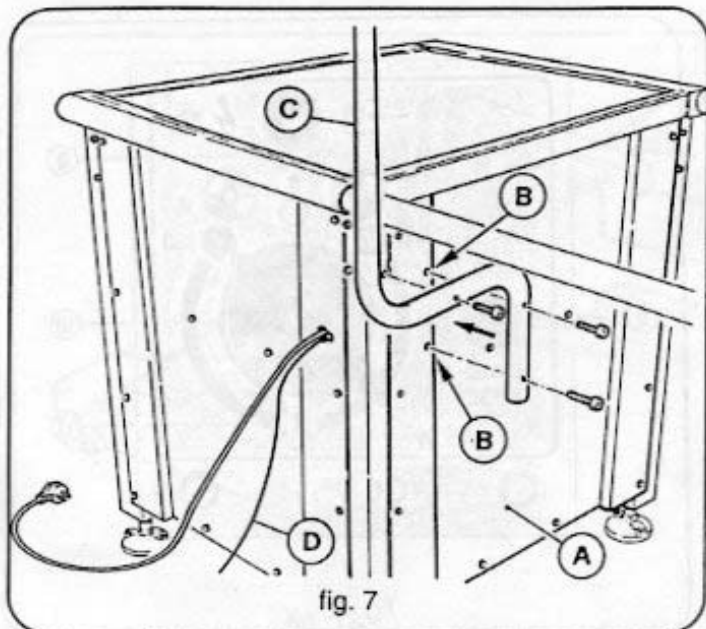
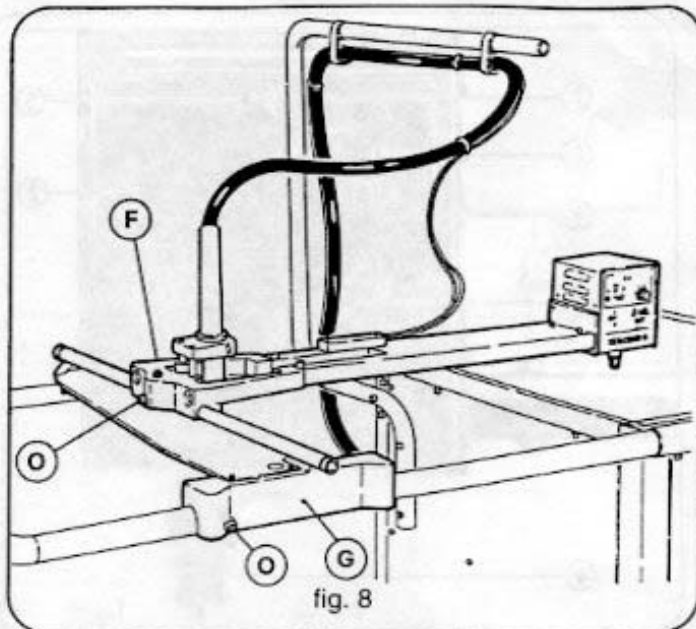
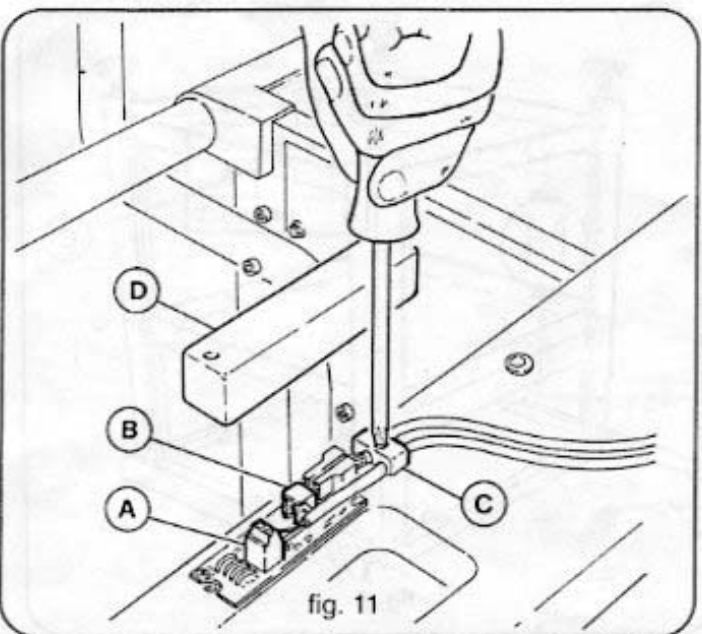

fig. 7
fig. 8
fig. 11
- Turn the bench right side up (fig. 7).
- Place the side panel A, complete with inserts B, in the position shown in fig. 7 and attach it with 12 self-threading screws.
- Fasten the cable support pipe C in place (fig. 7), using 3 M6x40 screws.
- The third side panel must be positioned as shown in fig. 7 and attached with 12 self-threading screws.
- Position the carriages F and G as shown in Fig. 8.
These torches are normally fitted with a cable having two wires, which must be connected to the terminals on connector A (fig. 11).
Parallel to the two torch trigger wires, connect two wires which must be attached to the terminals on connector A (fig. 11).
Connect the two wires of the cable M (fig. 7) to the terminals on connector B (fig. 11).
After all terminals have been connected, fasten the cables in place using the cable press C (fig. 11), then cover with the lid D.
Fasten the torch cable, cable D (fig. 7) and the arc starter cable (normally present only in torches for automatic use) to the cable support pipe and rings (fig. 8).
To limit torch shaking as much as possible, a brake is provided on each carriage (fig. 8).